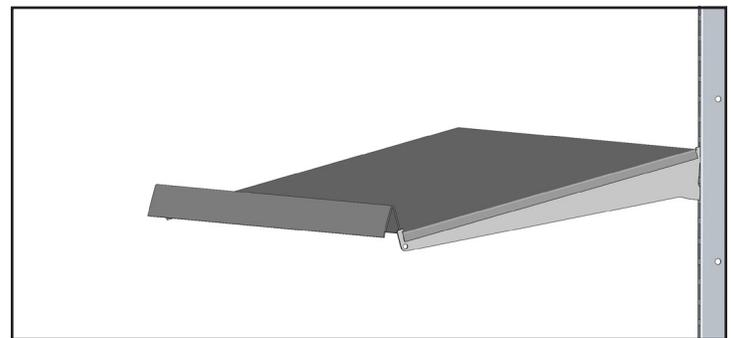

Fig. 5. Correct shelf installation.
- c. Once the shelf has cleared the shelf support tab, slide the shelf forward until the front of the shelf is under the front shelf support tab. When installed correctly, the shelf will be supported between the notched areas in the shelf brackets. See fig. 5.